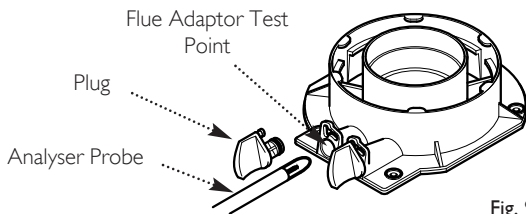

Fig. 93
7. Remove the plug from the flue sampling test point. Insert the analyser probe and allow sufficient time for the reading to settle (Fig. 93).